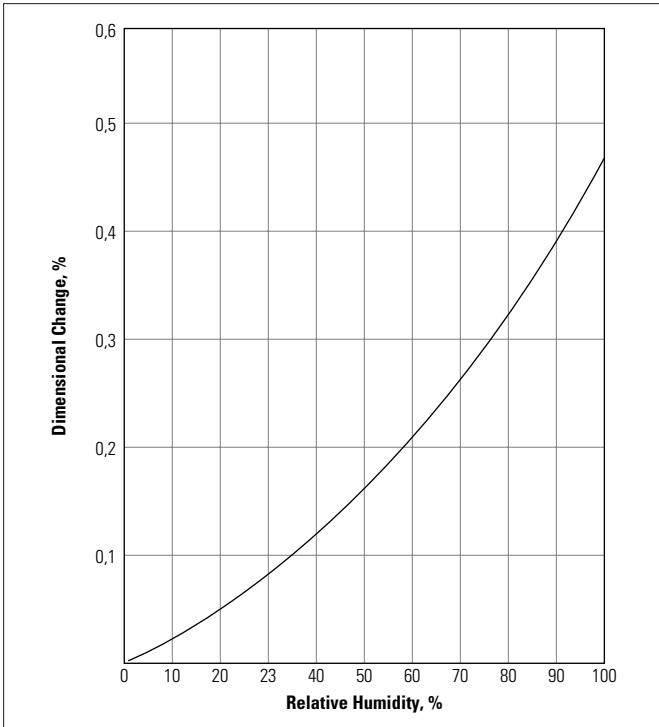

Fig. 26 SP1 and SP21 polyimide shapes. Typical dimensional change with relative humidity at equilibrium, 23°C
Figures 26 and 27 show typical effects of relative humidity (RH) changes at 23°C on the dimensions of machined and direct-formed parts. A part attains its full dimensional change at a given humidity level only after it has reached equilibrium in the particular environment. Allowing a completely dry part to reach equilibrium at 100% RH at 23°C will result in a maximum change of about 0,5% or 0,005 mm/mm.